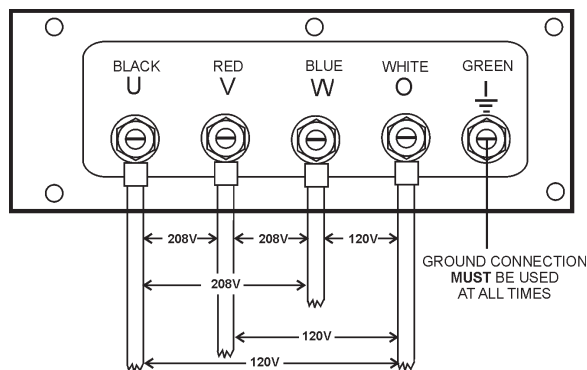

Figure 22. UVWO Terminal Lugs 3Ø-208/1Ø-120V Connections Connections
2. Connect the load wires to the UVWO terminals as shown in Figure 22.